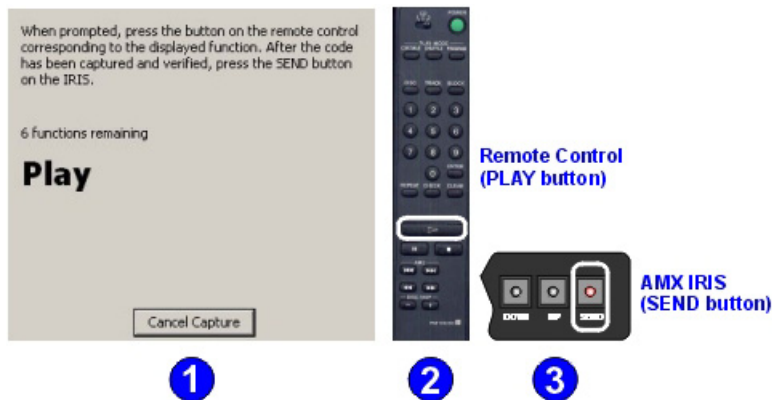

FIG. 46 Capturing IR
2. Press the button on the remote control corresponding to the function indicated in the IR Capture and Management dialog (FIG. 46):